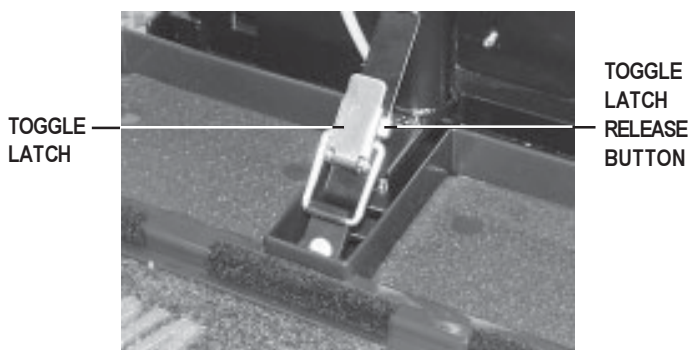

Figure 15. Toggle Latch-Latched
1. Push in the toggle latch release button while pulling back the toggle latch. See figure 15.
5. Secure the toggle latch. See figure 15.